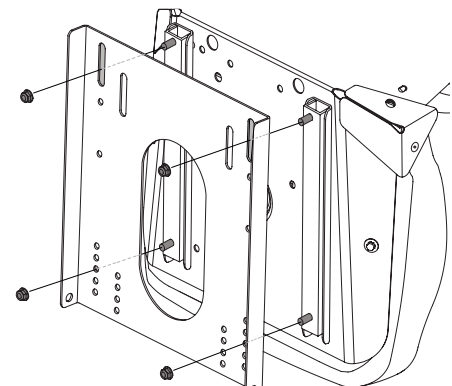

Figure 2-12
- Using the four provided bolts (a), install the seat onto the seat pan. Place the screws (b) on the front of the seat through the middle hole in the seat pan (c) as shown in Figure 2-12. Securely tighten the seat to the seat pan.